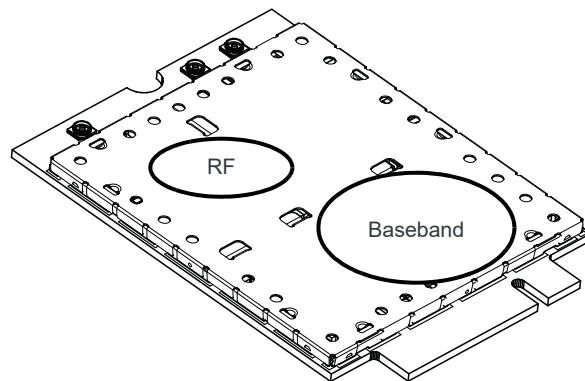

Figure 6-1: Shield Locations (Top View)
- Monitor temperature at all shield locations. Attach thermocouples to the areas indicated in Figure 6-1 on page 53 (RF, Baseband).